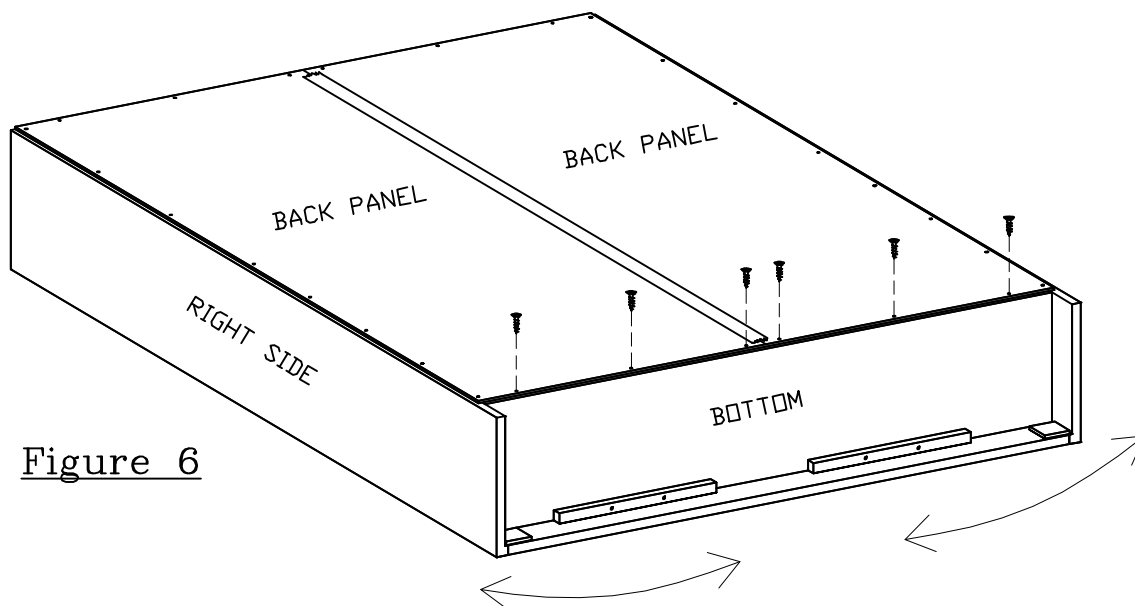

Figure 6
Step 24. Align the bottom corners of the bookcase with the corners of the **BACK PANEL**. If necessary, slide the corners of the bookcase to the left or to the right. Make sure the **BACK PANEL** does not go over the sides at the bottom corners. See Figure 6.
Step 25. Insert and screw 6 screws along the bottom edge of the **BACK PANEL**. See Figure 6.